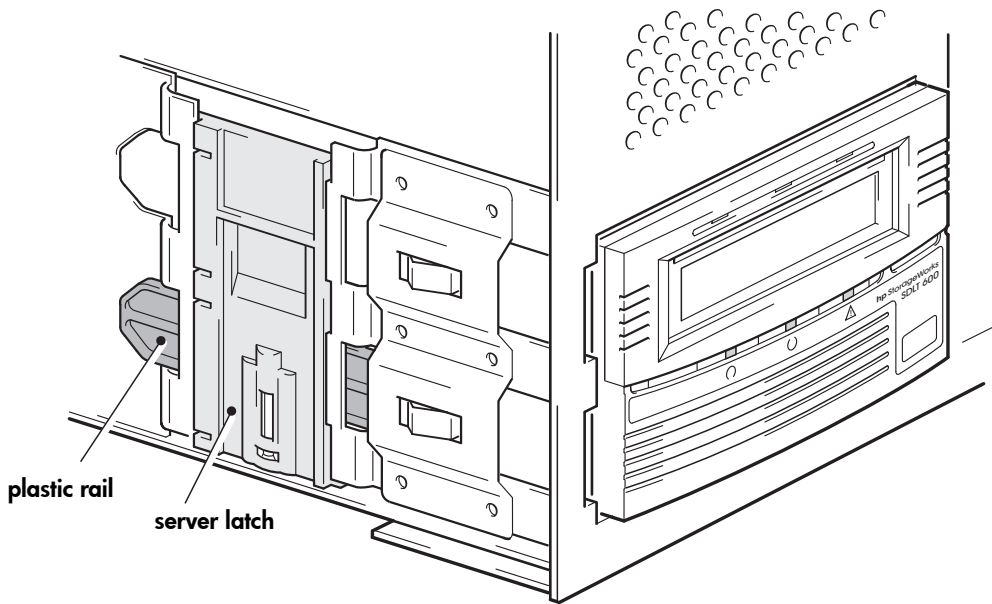

Figure 8a: securing drive to mounting hardware
- 1 Push the tape drive firmly into the bay and make sure the server latch is locked in position, as shown in Figure 8a.